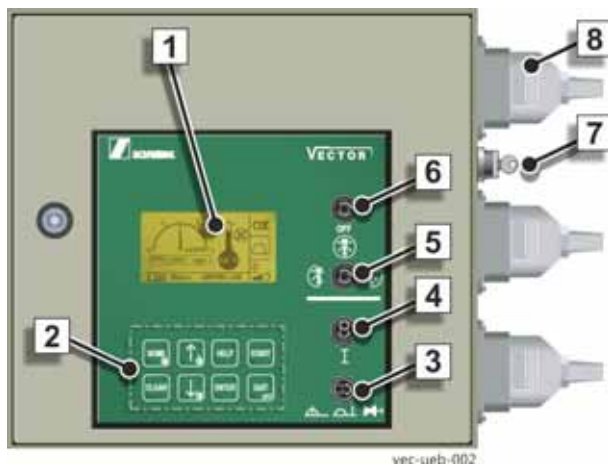
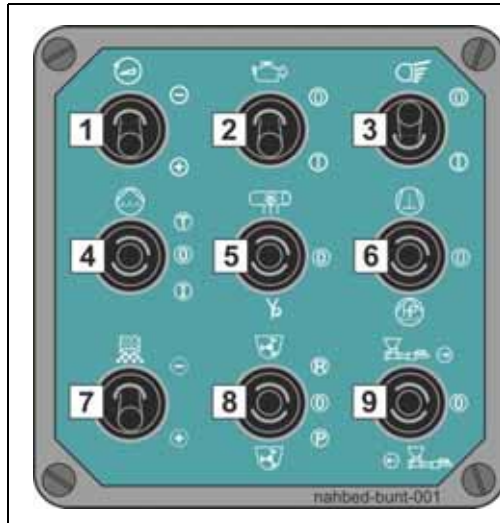
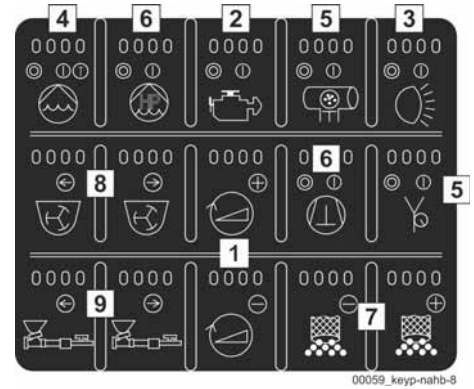

Fig. 73
Fig. 75 Local control
Fig. 76 Local control keypad
Activate the "LOCAL" operating mode using switch (3) on the switch cabinet of the VECTOR control system (Fig. 73).
Release the "LOCAL" operating mode with button (4) (Fig. 73).
A short acoustic signal confirms the release and field (4) (Fig. 73) shows this symbol.
<p>Symbol flashing: Switch for local control (3) (Fig. 73) is enabled! Set all switches for the local control unit (Fig. 75) / (Fig. 76) to position 0!</p>